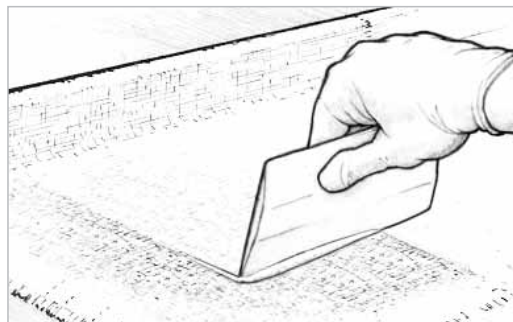

Figure 5-18 Squeegee away excess epoxy before the first batch begins to gel.
7. Squeegee away excess epoxy before the first batch begins to gel (*Figure 5-18*). Drag the spreader over the fabric, using even-pressured, overlapping strokes. Use enough pressure to remove excess epoxy that would allow the cloth to float off the surface, but not enough pressure to create dry spots. Excess epoxy appears as a shiny area, while a properly wet-out surface appears evenly transparent, with a smooth, cloth texture. Later coats of epoxy will fill the weave of the cloth.